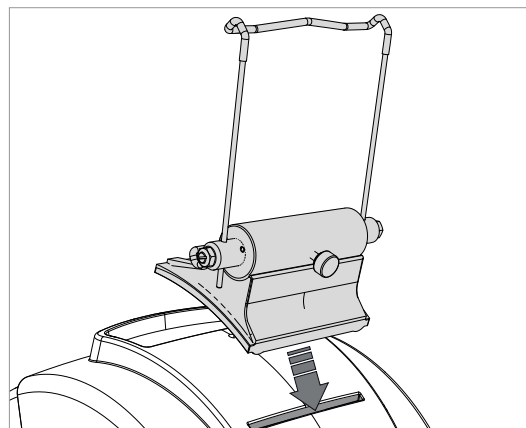

Fig. 14
- 3) Install the tablet stand so that the special profile fits into the slot on the machine cover (Fig. 14).